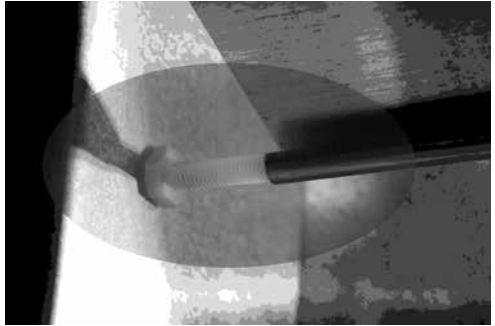

Fig.7 - Louver hinge slides over nylon hinge screws
- Install the new louver vane by sliding the curled louver hinge end over the pivot screw that has not been backed out. **(Fig.7)**